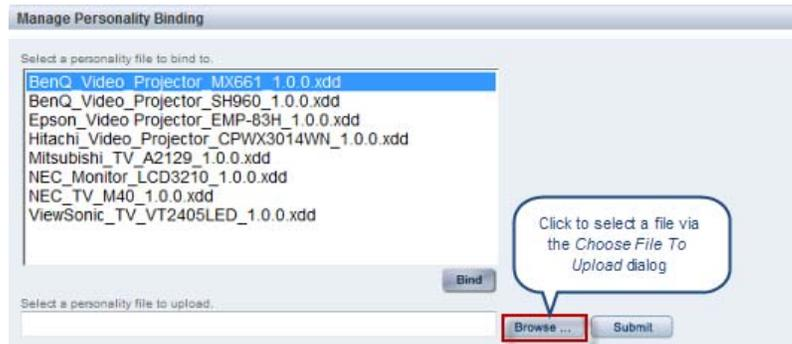

FIG. 117 Device Personality Page - Device Details (Manage Personality Binding section)
1. In the *Device Personality (Device Details)* page of the Master's WebConsole, click **Browse** to locate and select the Device Driver file to be uploaded for binding in the *Choose File To Upload* dialog (FIG. 117):